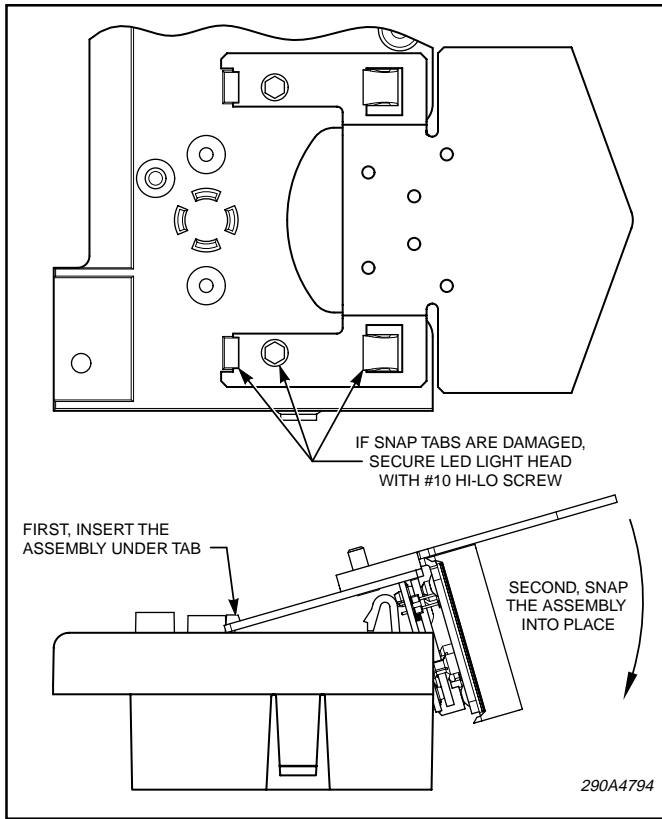

Figure 1.
3. See figure 1. Snap the light head into place. If the snap features in the plastic tray have been damaged, secure the light head with the supplied #10 Hi-Lo screws.